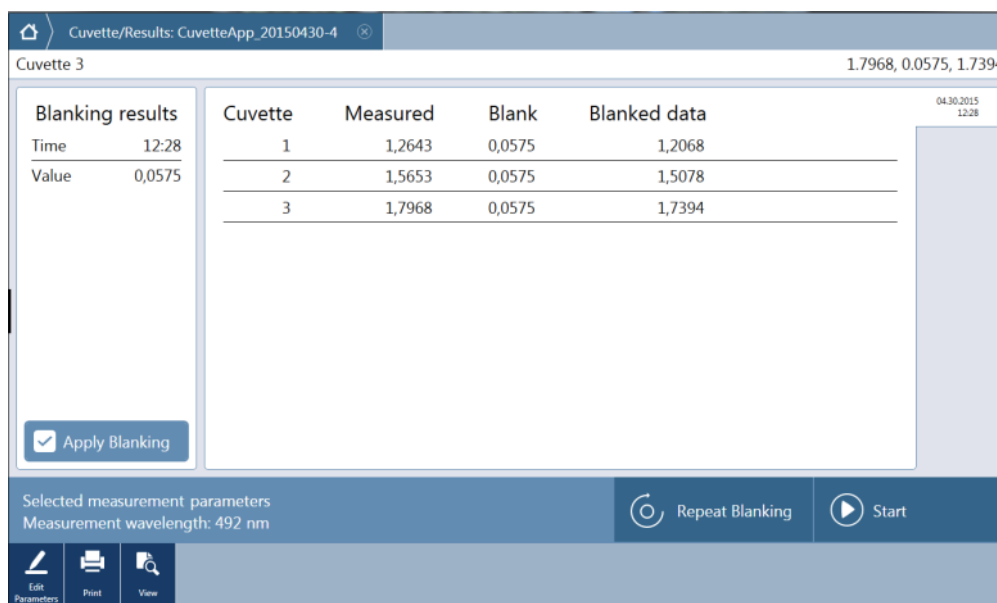

Figure 134: Result window during a measurement
4. Insert a cuvette for blanking and confirm the corresponding user intervention by selecting **OK**. The blanking measurement is performed and the blanking result is part of the Result window (Figure 134: Result window during a measurement).
2. Start the measurement by selecting **Start**. The measured result is displayed within the Result window (Figure 134: Result window during a measurement). To measure a new sample remove the previous cuvette from the cuvette port, insert the new one and continue with **Start**. The new measured result is added to the Result window.